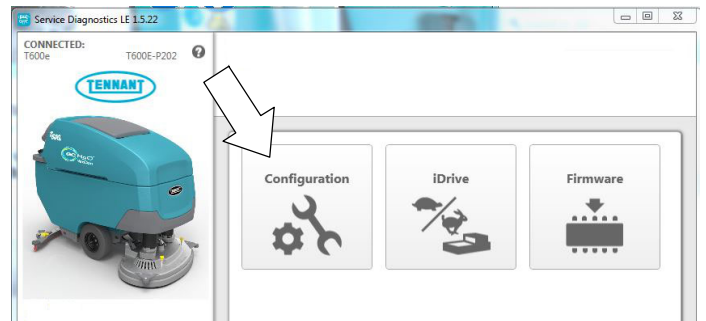

Fig. 18
4. From the Home screen, select the "Configuration" button (Figure 18).